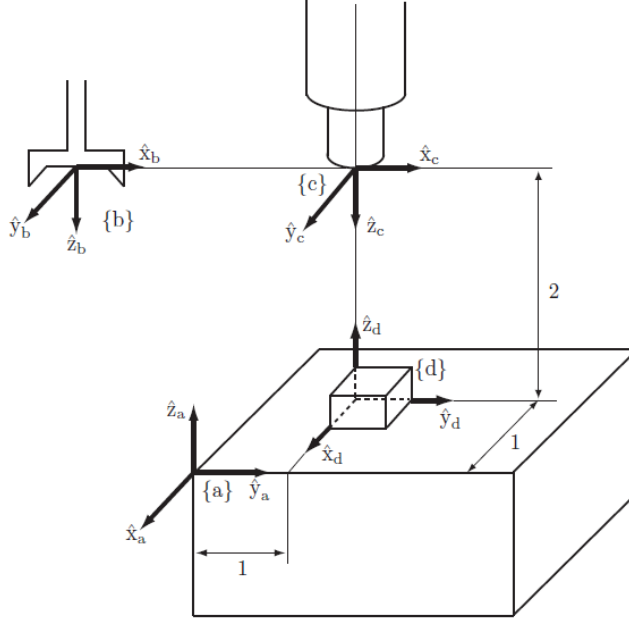

Figure 1: Four reference frames defined in a robot's workspace
2. Four reference frames are shown in the robot workspace of Figure 1: the fixed frame $\{a\}$, the end-effector frame $\{b\}$, the camera frame $\{c\}$, and the workpiece frame $\{d\}$.